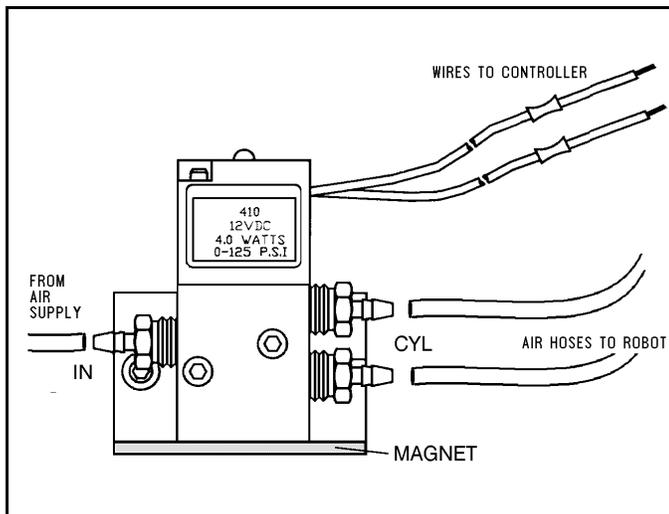

Figure 4-9: Pneumatic Solenoid Valve
4. Refer to Figure 4-9.
- Connect the other wire to the normally open (NO) terminal of any relay output.
6. Connect 12VDC to the common (C) terminal of the **same** relay output.